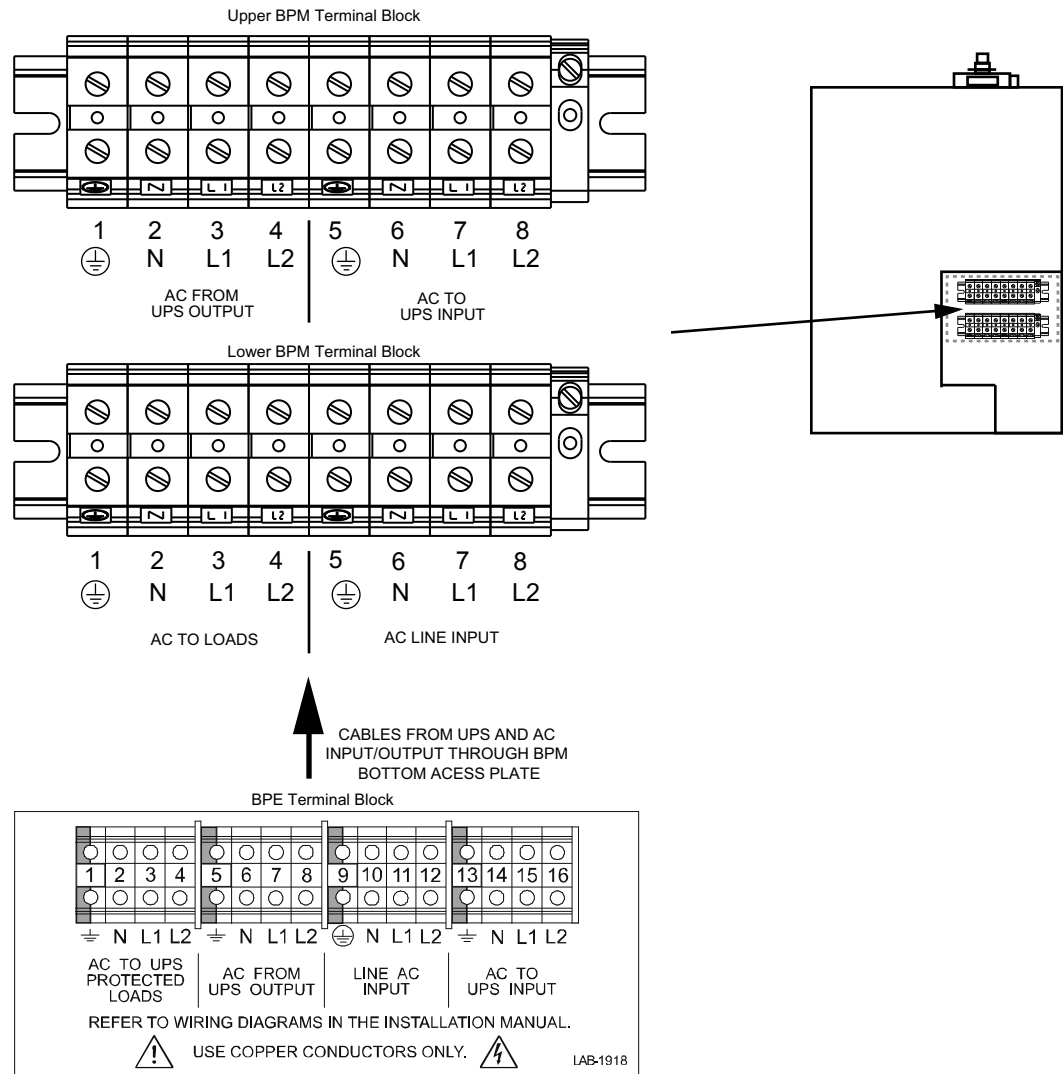

Figure 18. Bypass Switch Wiring Label and Terminal Blocks
9. Use the label on the top of the BPM access cover and Figure 18, and make the connections to the BPM terminal blocks. Tighten all connections as specified in Table 2 on page 16. Use copper wire that is the appropriate size for the current draw.